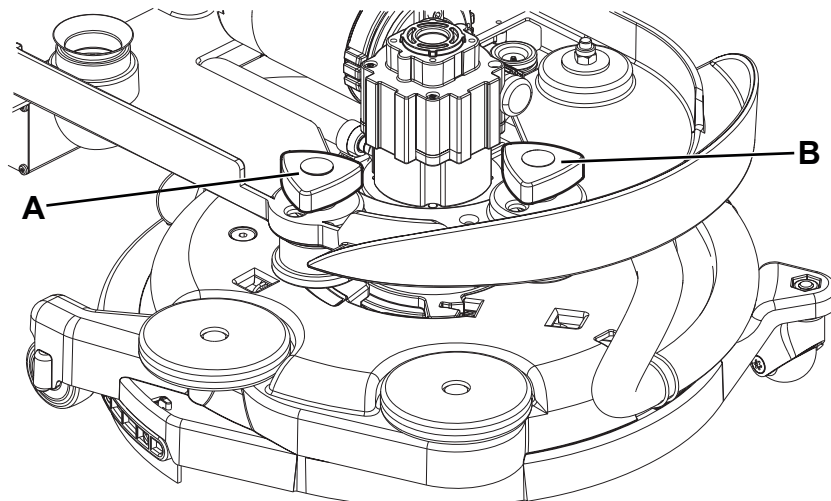

Figure 6
2. Adjust the machine speed with the handwheel (A, Fig. 6):
3. If it is difficult to keep the machine moving straight-forwardly because it deviates to the left or to the right, adjust the handwheel (B) by turning it clockwise or counter-clockwise.